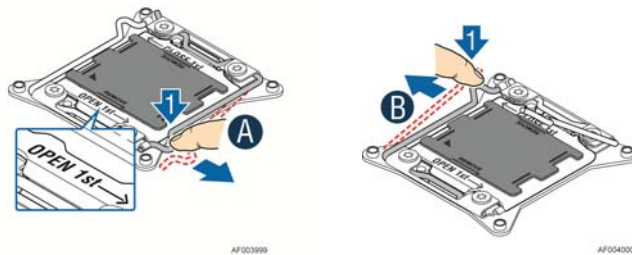

Figure 32. Installing Processor – Open the Socket Lever
2. Open the socket lever, see Figure 32.